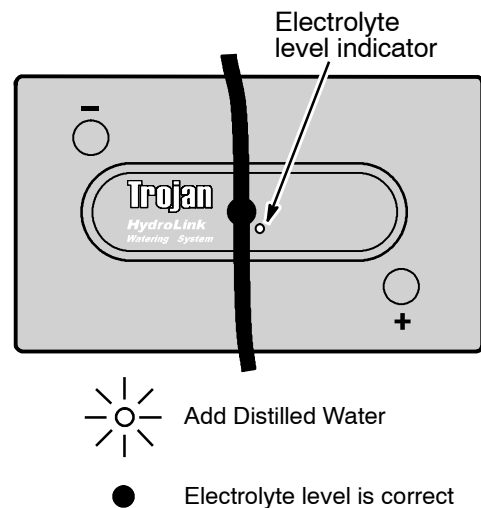

Fig. 6
2. After charging batteries, check the electrolyte level indicator located on each battery cap (Figure 6). If any of the level indicators are WHITE watering is required. If any of the level indicators are BLACK watering is not required (Figure 6).